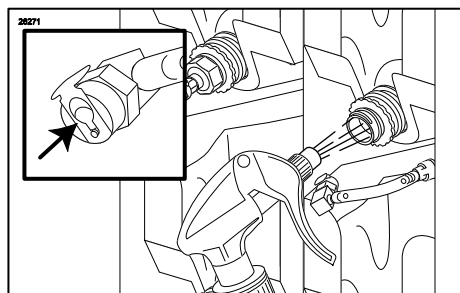

Figure 48
- Using a spray bottle of approved sanitizer solution, spray the syrup bag fitment and the Syrup Bag Connector. Allow these parts to sanitize for at least 1 minute. (See Figure 48.)